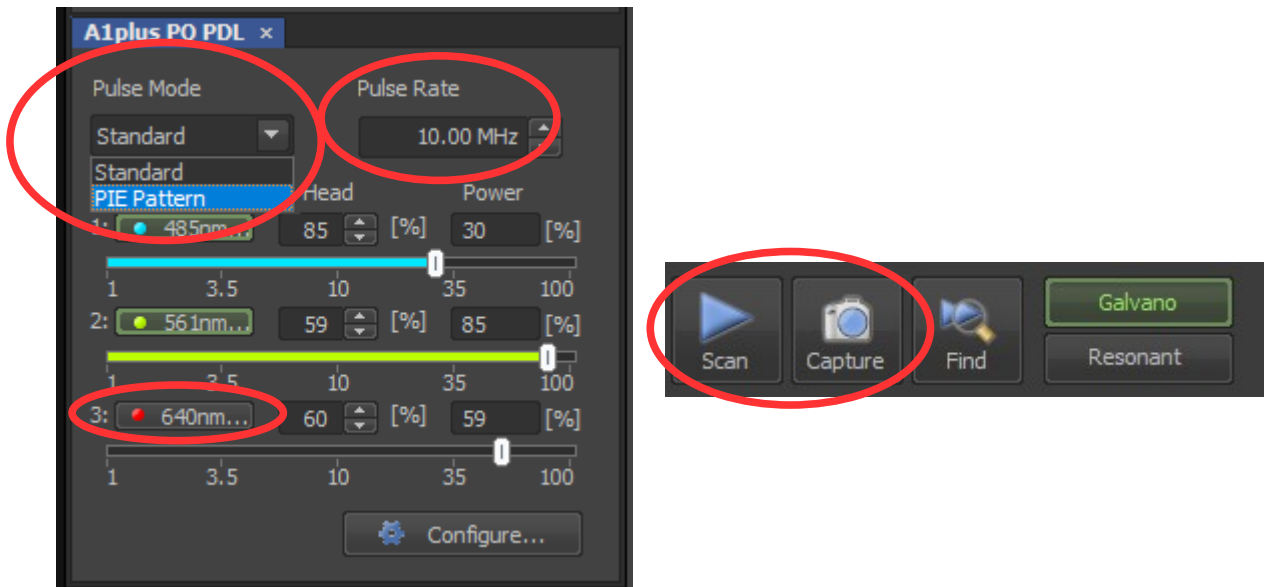

Fig. 2.9 Selection of Pulse Mode, Pulse Rate and Lasers and transfer the settings by starting a measurement.
3. It is possible to select or deselect the lasers by clicking on the displayed Laser wavelength. Furthermore the **Pulse Mode** as well as the **Pulse Rate** can be set. All the settings are transferred to SymphoTime as soon as a measurement is started. (see Fig. 2.9)